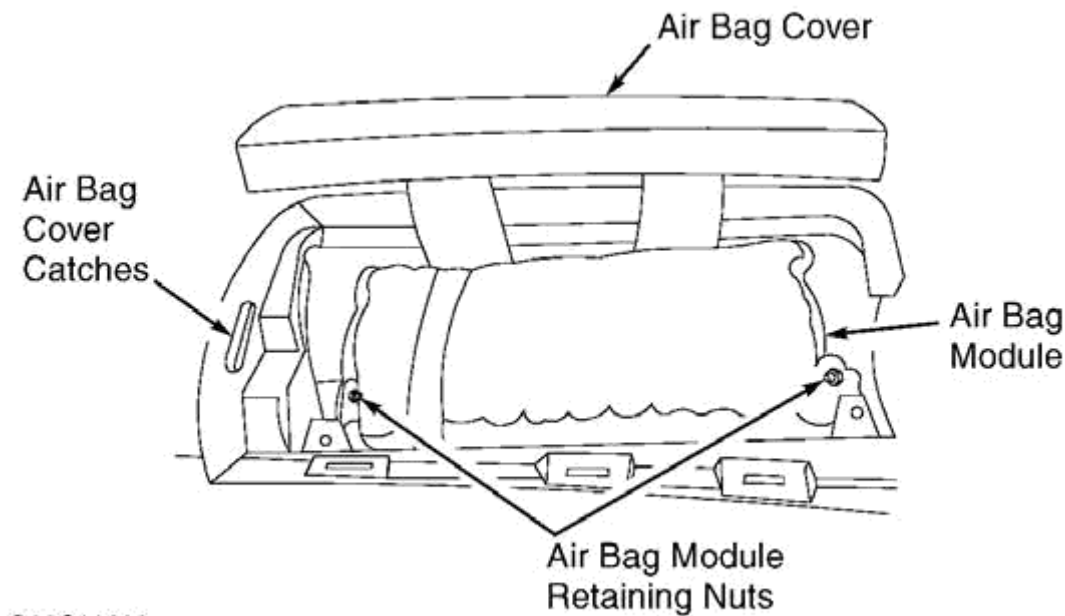

Fig. 3: Removing Passenger Air Bag Module
2. Insert Plastic Wedge (00 9 323) on both sides of passenger-side air bag cover, release catches, lift cover up and place on instrument panel. See **Fig. 3** . Disconnect Orange passenger-side air bag module harness connector. Remove air bag module retaining nuts and remove air bag module from instrument panel. Remove air bag cover and cover bracket.